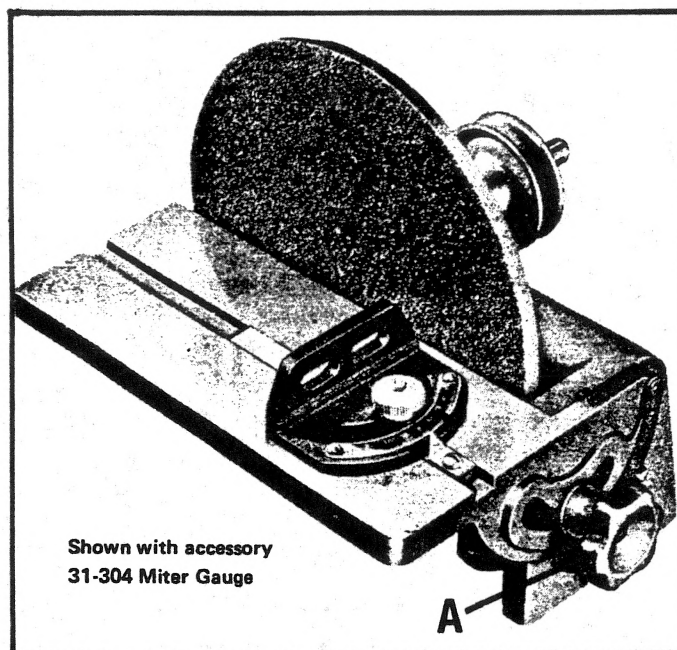

Fig. 1
The table of disc sander can be tilted 45 degrees down and 30 degrees up. To make this adjustment, loosen the handknob (A) Fig. 1, and tilt the table to the desired position.